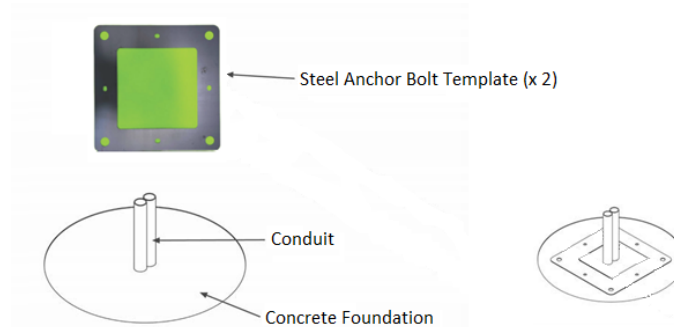

Figure 8. Anchor Bolt Template and Foundation
3. Place each steel anchor bolt template on the prepared foundations (see Figure 8) making sure that templates are aligned and centered on the foundations. If the SpeedGate is being installed near a wall, object or pre-existing opening make sure that each side of the template is the same distance from the wall, object or pre-existing opening. See SpeedGate site-specific general layout drawings that are provided by Wallace Perimeter Security for exact dimensions of the gate foundations.
4. Ensure that the required conduits fit in the center of the anchor bolt template (see Figure 8). Using 1" grade 8 anchor bolts (or equivalent), imbed the anchors using epoxy chemical anchor (HILTI HVU2 1" X 8 1/4" or equivalent).